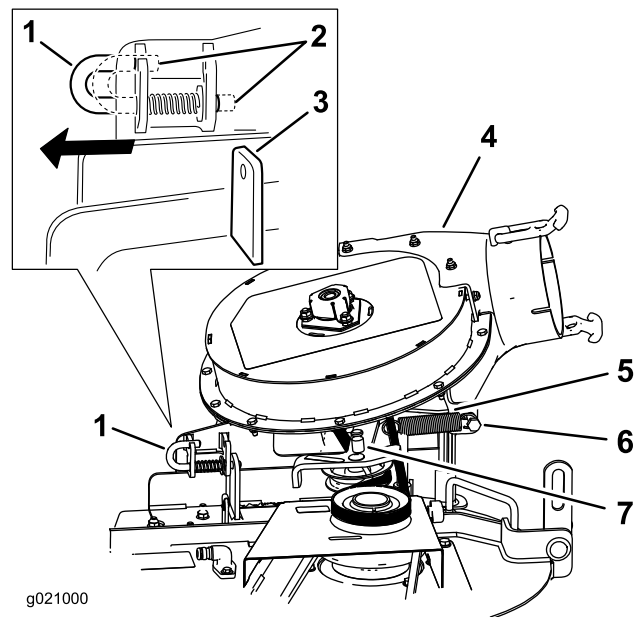

Figure 16
3. Move the latch pin from the locking position to the open position (Figure 16).
5. Move the latch pin to the locking position (Figure 16).
Note: Ensure that the latch pin extends through the hole in blower support (Figure 16).
5. Install the spring on to the idler pulley post (Figure 16).
6. Install the spring on to the shoulder bolt (Figure 16).